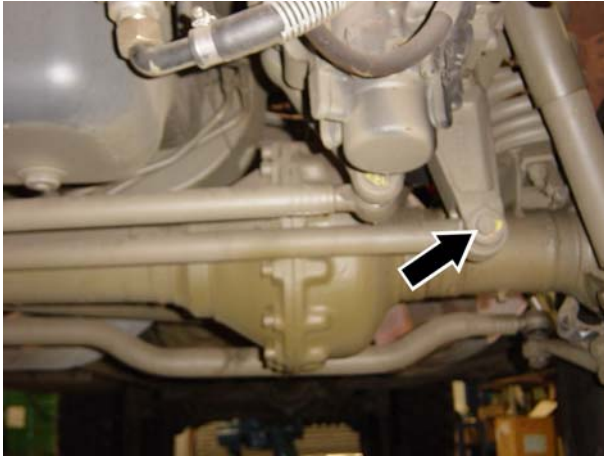

Figure 234 - Panhard Rod - Installation
- e. Connect the front panhard rod to the mounting bracket on the left hand chassis rail and fit the connecting bolt and lock nut (Fig 234). Do not tighten the bolt at this stage.